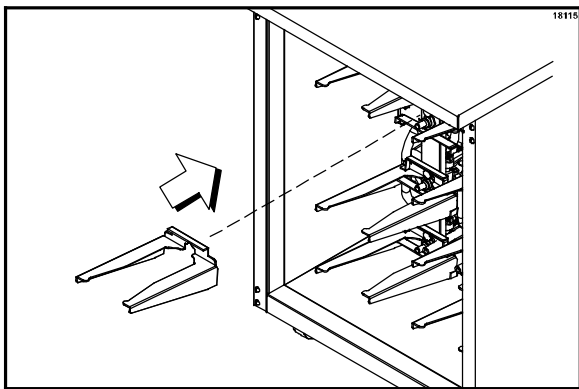

Figure 33
- If the product bin shelf is not installed, install the shelf over the collar and pin on the back wall of the product cabinet. (See Figure 33.)